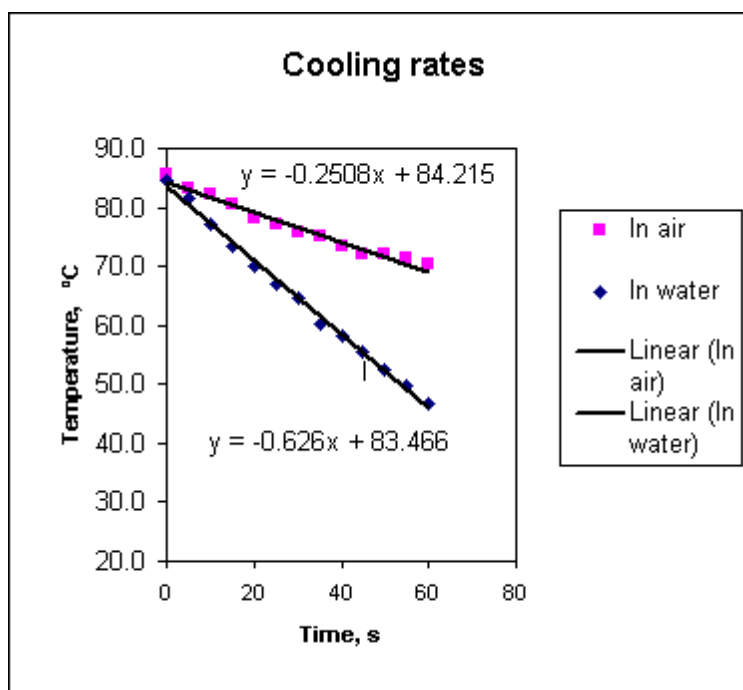

Figure 2. Graph
was used to record the data for the first run (cooling in air); the time column will be the same for this second set of data **since you will have used the same time settings**. Just be sure that the column is pasted next to the first set of temperature data and lined up with the time data, so that the table of data is similar to that shown in Figure 2. Note that you should add column headings to complete the table.
11. Click on one of the two curves to highlight it. Then click on Add Trendline from the Chart menu. With the linear trend option highlighted, click on the Options tab and select "Display equation on chart." Click on OK to get the trendline and equation displayed on the chart. Highlight the equation and drag it next to the curve. Repeat this process for the other curve. Your table and graph should now look like Figure 2 (Note however that only 60 seconds of readings are shown in this table and graph. Yours will show 120 seconds).
1. **To change the size and location of the chart:** Click inside the chart but outside the graph area to select it. Notice that little black boxes appear at the corners and middle of the graph. Move your cursor to a corner and notice that the cursor becomes a double-headed arrow, which can be dragged to change the size of the graph. Once the highlighted graph is the desired size, you can drag it to any location you want on the spreadsheet. To print the chart and table (as in Figure 2), highlight the cells containing both, and select Print and Selection from the File menu.
What to Turn in for Grading. Turn in the table and graphs, similar to those shown in Figures 2 and 4, attached to a single page word processed document (with your name and lab section at the top) answering the following questions.